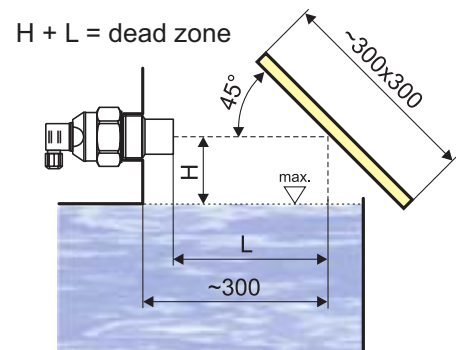

Fig. 10: Reflection board
- To lower the minimum distance to the medium measured, a **reflection board** made from solid, even and smooth material can be installed together with the level gauge (Fig. 10). Subsequently, the tank can be filled nearly up to the maximum volume. The solution is suitable for open tanks and reservoirs.